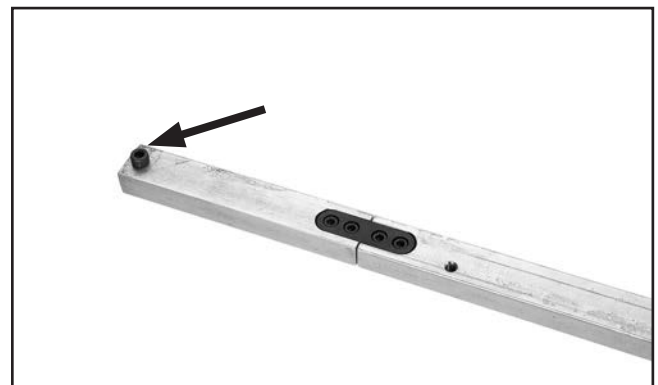

Figure 7. Rail extension cap screw.
6. Thread M8-1.25 x 10 cap screw into end of rail extension to secure (see **Figure 7**).